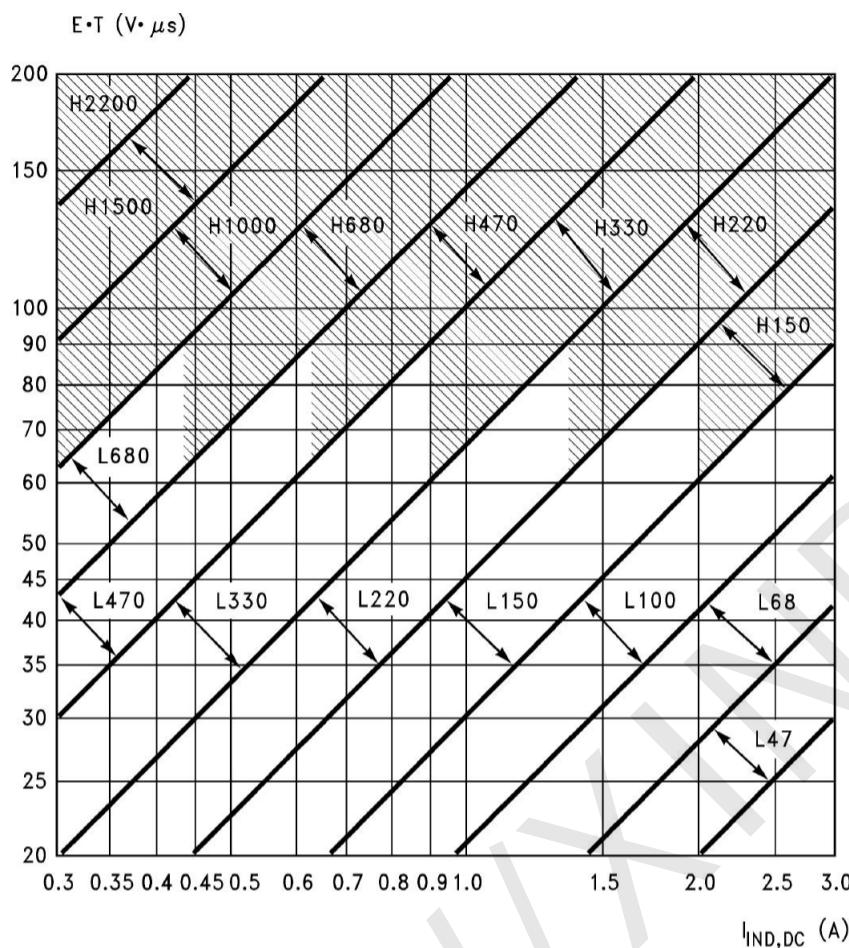

FIGURE 9. LM2577-ADJ Inductor Selection Graph
1. From Figure 9, identify the inductor code for the region indicated by the intersection of E•T and I_{IND,DC}. This code gives the inductor value in microhenries. The L or H prefix signifies whether the inductor is rated for a maximum E•T of 90 V•μs (L) or 250 V•μs (H).